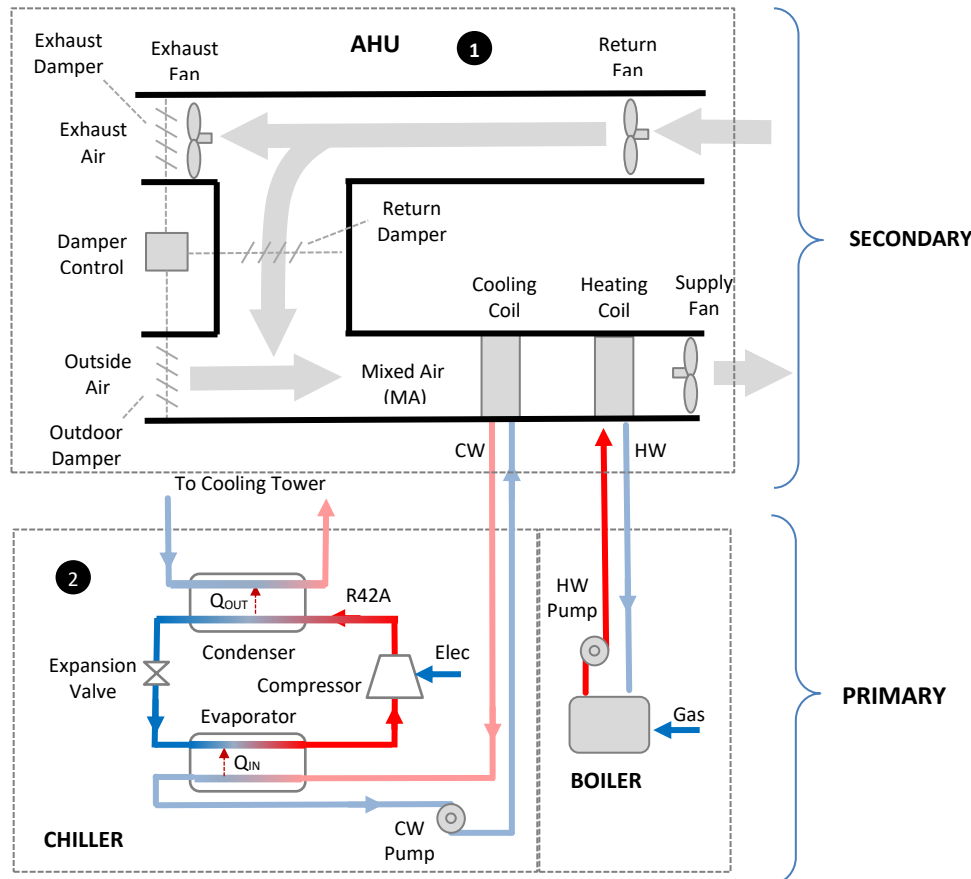

Figure 2-2 Typical HVAC system showing Primary and Secondary components
In an HVAC system, the heating and cooling coils, and the liquid distribution network are commonly called *secondary* components as indicated by ① in Figure 2-2. They are housed in an *Air Handling Units* (AHU). The heating coil of the AHU receives hot water pumped from a fuel-fired boiler. The boiler and the chiller that convert fuel or electrical energy to heating and cooling liquids or gases respectively, are typically called the *primary* components of the system as shown in ② in Figure 2-2..